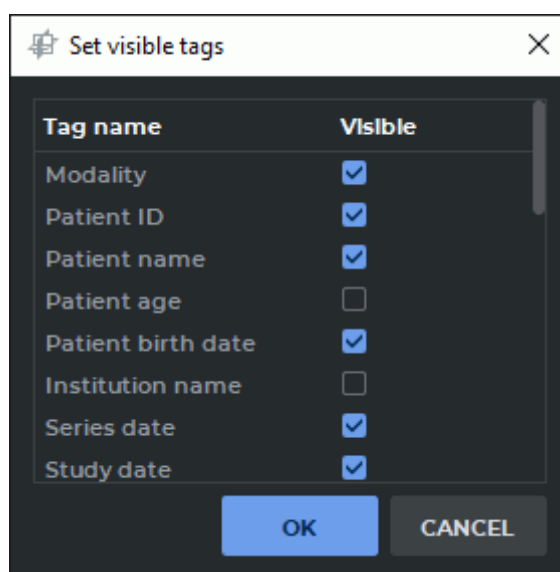

Figure 2.79: Set visible tags dialog
- **Visible tags.** To customize the list of displayed tags, click the arrow on the right side of the **Show labels** button, select the **Select visible tags...** command and in the dialog that opens (Fig. 2.79) set the flags for the required tags;